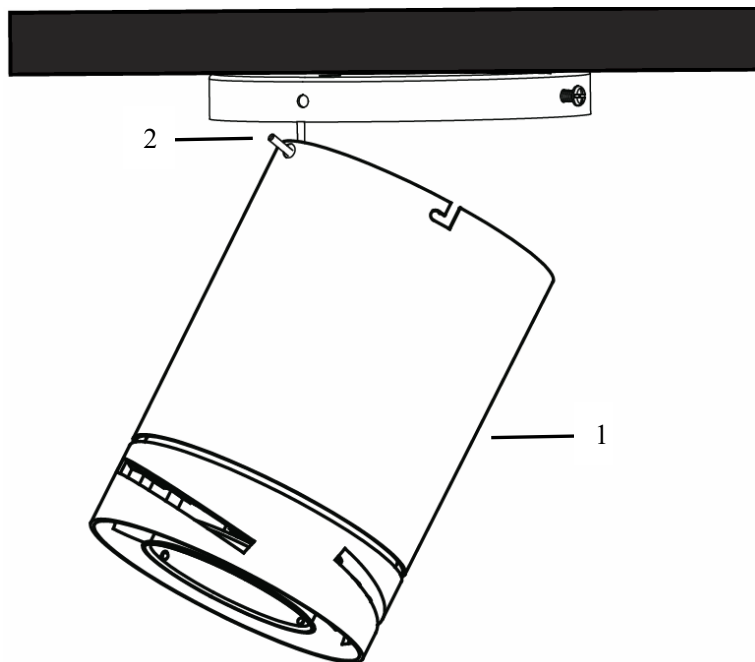

Fig. 6
- Lift the fan assembly (1) up to the mounting bracket. Hang the fan assembly onto the J-hook (2) of the mounting bracket. (Fig.6)